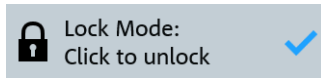

Figure 5-21: Module Operation dialog of a switch unit and of one module in lock mode
- The lock mode indicator icon is highlighted (see red circles in Figure 5-21)
- You cannot change the state of relays and output channels. If you try to switch one of them, a red rectangle (as in Figure 5-21) reminds you of the locked state.